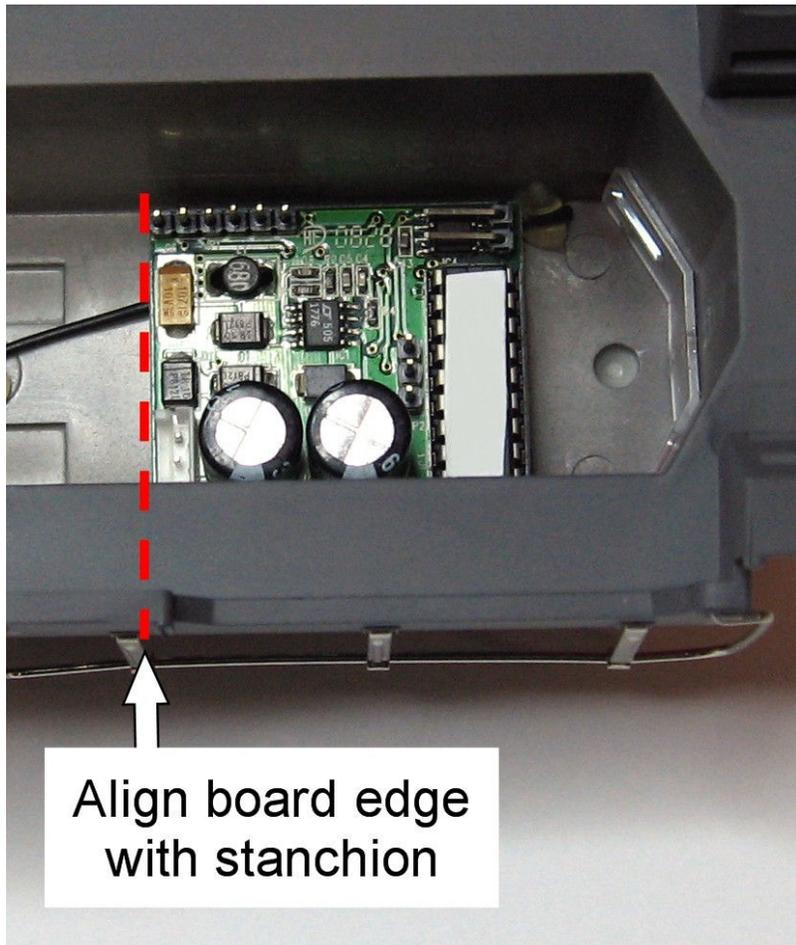

Figure 11 – Sound Commander 2 mounted
3. Attach a 0.5 x 0.75” piece of double stick tape to the back of the Sound Commander 2 circuit board and, while referring to Figure 11, test fit in the long hood of the Beep shell with the double stick tape protection on. Align the card with the stanchion on the shell as indicated. Once comfortable with the placement, permanently mount the circuit board.